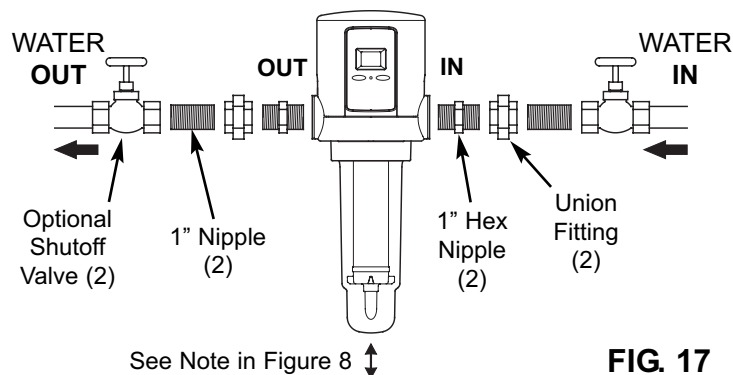

FIG. 17
1. Connect the filter housing as typically shown in Figure 17. Use pipe joint compound on all external threads. Do not turn pipe or fittings too tightly into the filter head or you may break it. It is important to have some linear movement in the house main water pipe, as this will allow you to tighten union fittings without damaging the filter head if pipe lengths are not exact.